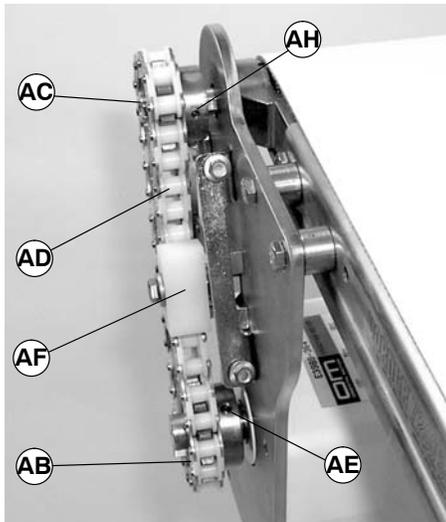

Figure 14
IMPORTANT: Make sure center of timing chain (AD of Figure 14) aligns with center of chain tensioner (AF). If necessary, loosen two set screws (AE) to move drive sprocket (AB) in or out. Tighten set screws. Also, if necessary, loosen two set screws (AH) to move driven sprocket (AC) in or out. Tighten set screws.